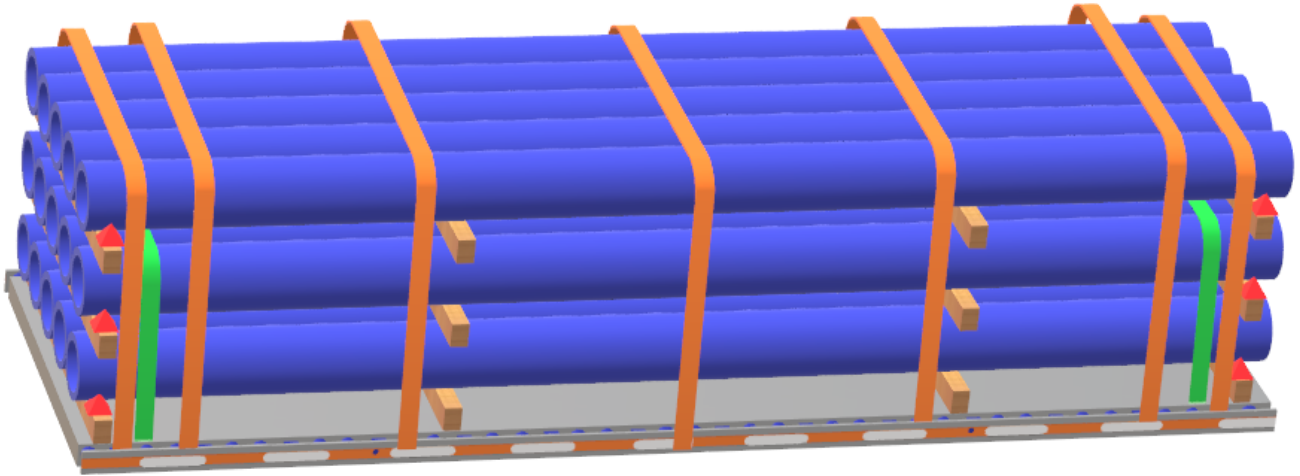

Figure 1:
4. If a load is 3 tiers high or more, belly straps must be used to secure the second layer (green straps on figure 1.)
- When hauling pipe remember that it must be blocked to prevent rolling during transit. This is generally done with the use of wooden or plastic chocks (see the red chocks in figure 1). A driver may have to provide his own chocks at certain locations. If you don't have them, be sure to ask.